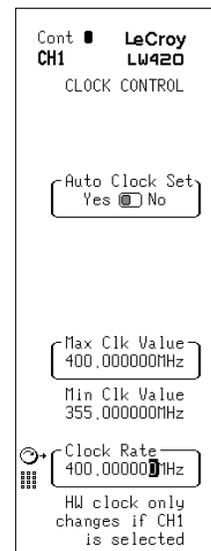

Figure 13.3 The Clock Menu
1. Access the **Clock Control** menu from the front panel by pressing the red “**2ND**” button then the **CLOCK** button (the alternate function of the **TIME** button). The CLOCK menu is shown in figure 13.3.